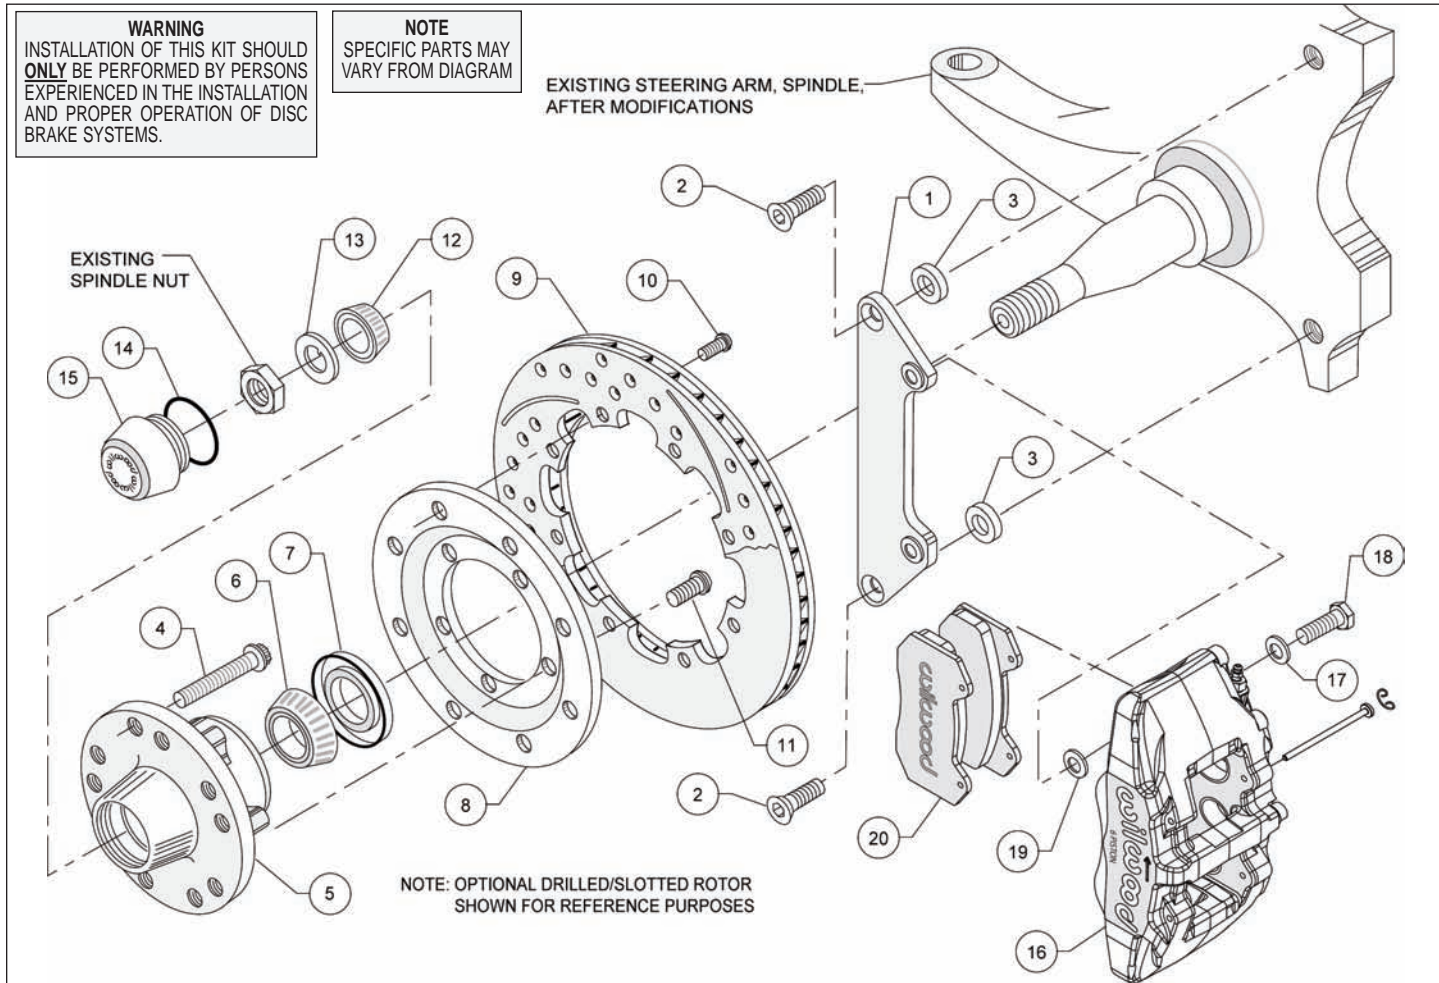
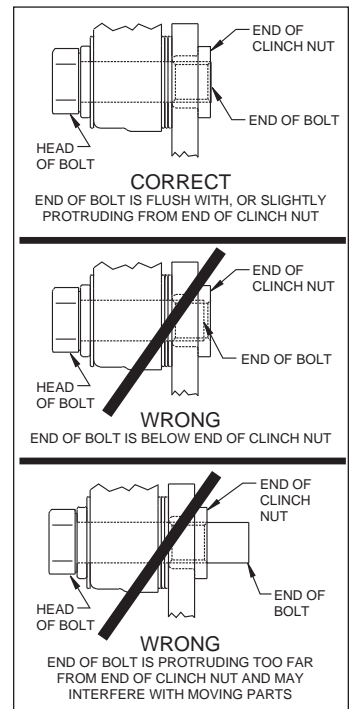

Figure 2. Typical Installation Configuration
Figure 4. Clinch Nut Engagement Diagram
Assembly Instructions (numbers in parenthesis refer to the parts list, and Figure 2): **CAUTION:** All mounting bolts must fully engage clinch nuts. Be sure to check that all bolts are either flush or protruding through flanged side of clinch nut after shimming, Figure 4.
- Orient the caliper mounting bracket (1) with the corresponding holes, to the face of the spindle, as shown in Figure 2. Attach using bolts (2) while positioning spacers (3) between bracket and spindle face. Temporarily tighten the mounting bolts. Ensure that the flanged heads of the clinch nuts in the bracket are facing outboard. **NOTE:** The bracket must fit squarely against the mounting points on the spindle. Inspect for interference from casting irregularities, machining ridges, burrs, etc. Remove bolts one at a time, apply red *Loctite*® 271 to threads and torque to 40 ft-lbs.
- Pack the large inner bearing cone (6) with high temperature disc brake bearing grease (available from your local auto parts store) and install into the backside of the hub (5), Photo 2.
- Install the grease seal (7) by pressing into the backside of the hub (5), flush with the end of the hub, Photo 2.
- Orient the rotor (9) and the rotor adapter (8) as shown in Figure 2 and Photo 3. Attach the rotor to the adapter using bolts (10). Using an alternating sequence, apply red *Loctite*® 271 to the threads, and torque to 25 ft-lb.
- Mount the adapter/rotor assembly (8/9) to the hub (5) using bolts (11), as shown in Figure 2 and Photo 4. Using an alternating sequence, apply red *Loctite*® 271 to the threads, and torque to 55 ft-lb.
•**NOTE:** Please reference the caution statement at the beginning of the assembly instructions. This kit contains distinct right and left hand calipers that must be mounted in a specific direction, as described below. Mount the caliper (16) onto the caliper mounting bracket (1) using bolts (18) and washers (17), as shown in Figure 2. Initially place two .035" thick shims (19) on each bolt between the caliper and the bracket, Photo 7. Ensure that the caliper is mounted so the largest pistons are at the rotor exit end of the caliper, in relation to the direction of rotor rotation. Temporarily tighten the mounting bolts and view the rotor (9) through the top opening of the caliper. The rotor should be centered in the caliper, Photo 8. If not, adjust by adding or subtracting shims between the bracket and the caliper. Always use the same amount of shims on each of the two mounting bolts. **NOTE:** The end of each bolt must be flush with or slightly protruding from the head of the clinch nut, as shown in Figure 4. If necessary place spare shims between washer (17) and caliper mounting ear to achieve the proper clinch nut engagement. Once the caliper alignment and clinch nut engagement are correct, remove the caliper bolts and caliper.